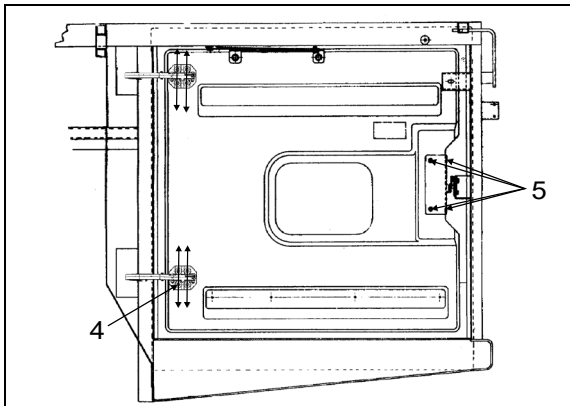

FIGURE 95: ENGINE COMPARTMENT R.H. DOOR 18197
8. Loosen screws (4, Figure 95).